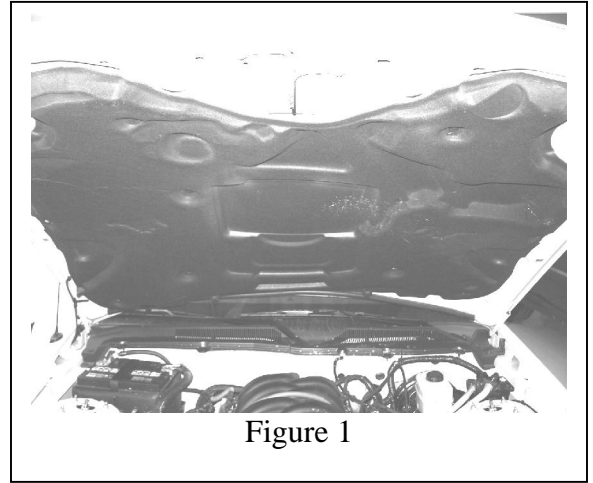

Figure 1
1. Remove 13 Christmas trees from hood liner with panel puller. **(FIGURE 1)**